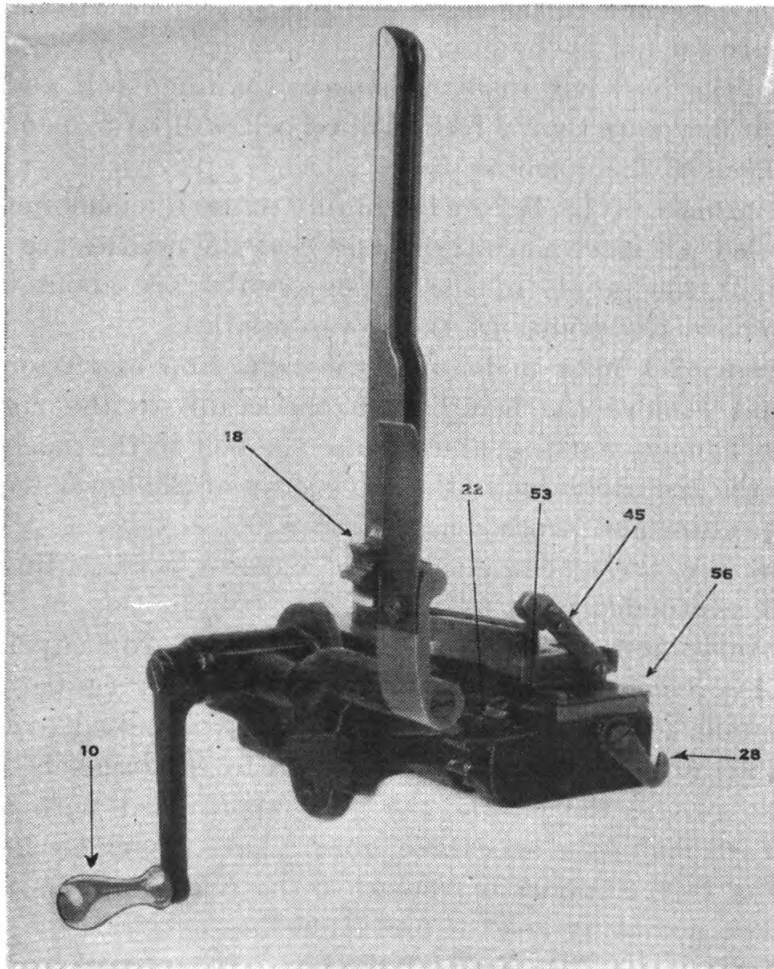

FIGURE 130.—Belt-filling machine.
*b. Lubricating oils.*—(1) For all caliber .30 and caliber .50 AA machine guns, use oil, lubricating, preservative, light, at all temperatures.
(2) For mounts M8 and T10, use oil, engine, in the grades recommended for the 37-mm gun, carriages M3 and M3A1. See lubrication section, paragraph 49.
(3) Oil, engine, shall be applied lightly to all exposed and moving parts weekly, when gun is not being fired, and daily, when being fired. Exposed and moving parts should be wiped clean before lubrication.
(4) At all times when not being fired, mounts M8 and T10 (including the trigger mechanism, brackets and gun), should be protected from the weather by a tarpaulin and inspected daily for signs of rusting.
**147. Belt-loading machine** (fig. 130).—*a. General.*—This machine is for the rapid loading of belts and is intended to be fastened to a table or bench while in use.
*b. To fill feed belt with cartridges.*—(1) Fasten the machine to a table or bench, and turn the crank (10) to the right until it is straight down.